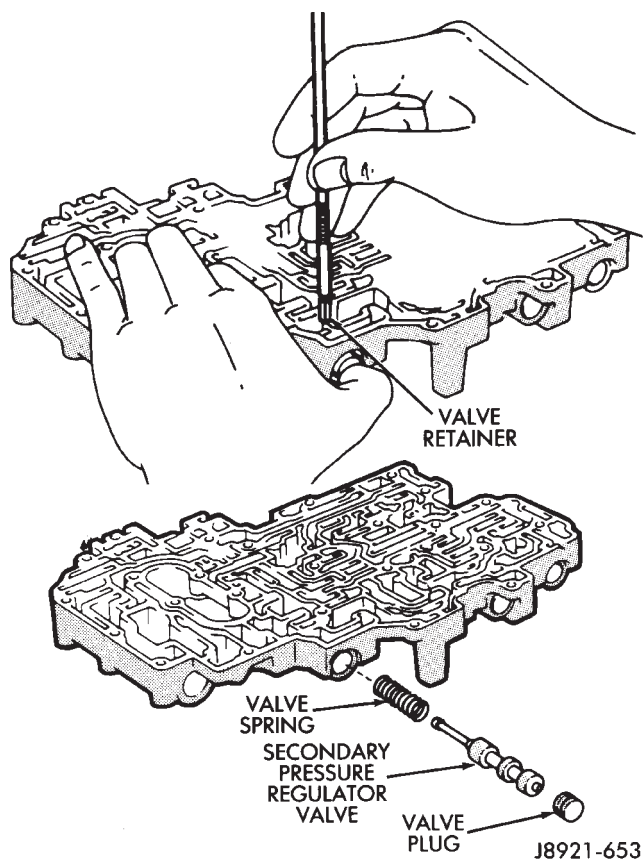

Fig. 10 Removing/Installing Secondary Pressure Regulator Valve
(10) Remove secondary pressure regulator valve retainer and remove plug, regulator valve and spring (Fig. 10).
(6) Install secondary regulator valve spring, valve and plug in valve bore. Press plug inward and install retainer (Fig. 10).